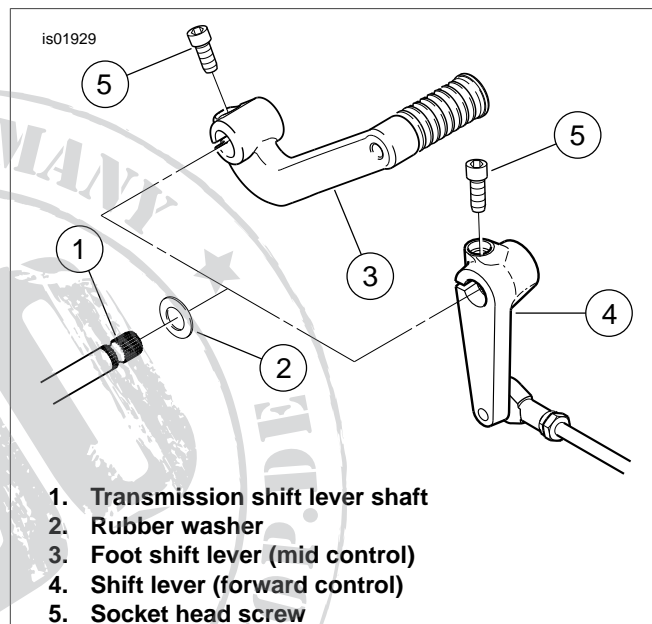

Figure 1. Shift Lever Removal
3. **All models:** See Figure 1. Note the installed orientation of the transmission foot shift lever to aid in re-assembly. Use a 1/4 in. hex key to remove the socket head screw (5) holding the shift lever (3 or 4) to the transmission shift lever shaft (1). Remove the lever and rubber washer (2).
20. See Figure 1. Assemble the rubber washer (2) to the transmission shift lever shaft (1). Orient the shift lever (3 or 4) to the angle noted in Step 3, and install the lever onto the shaft.
21. Using a 1/4 inch hex key, thread the screw (5) into the shift lever. Tighten to 16-20 ft-lbs (21.7-27.1 Nm).